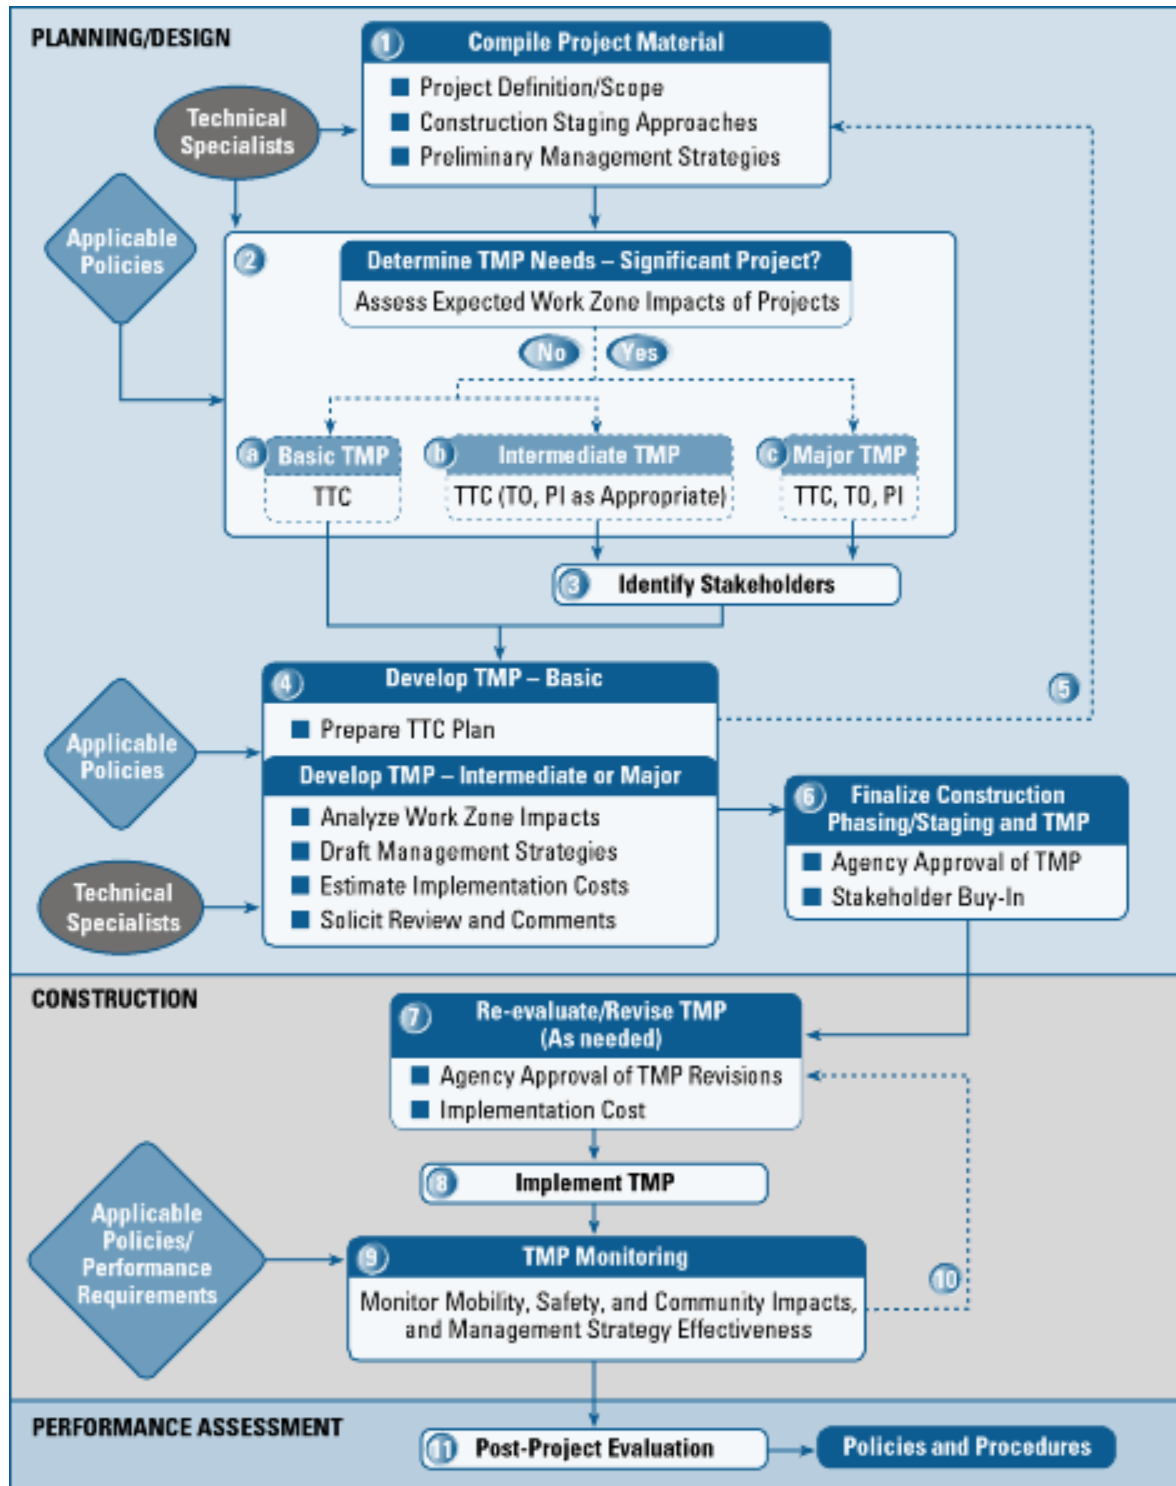

Figure 5-4: Chart Illustrating the Possible Development Steps of the TMP
Accordingly, a Traffic Management Plan (TMP) will be produced by HKBro's qualified and experienced road safety expert, who will discuss and approve it with the CDR, and ensure that it is implemented correctly on site. The TMP will show the contractor's understanding of the traffic detours and road safety measures required to safely guide passing traffic through the construction zones based on international standards and measures. The TMP will lay out a set of coordinated strategies and will describe how these strategies will be used to manage the work zone impacts of a project. As per Part D - Environmental and Social (ES) Section L of the bidding forms, the TMP shall be prepared to ensure safety of local communities from construction traffic; Hence, a suitable TMP for the work zones will be prepared in line with the latest Manual on Uniform Traffic Control Devices issued by the FHWA and using the chart shown in Figure 5-4 (extracted from Section 630.1012 of the Work Zone Safety and Mobility Rule by the FHWA). The scope, content, and level of detail of the TMP will vary based on the anticipated work zone impacts of the project. Elaboration will be provided while preparing the full TMP. Two of the keys to ensure that the TMP is successful are, (1) developing it as early as possible, prior to commencement of construction works and (2) using a multidisciplinary approach.